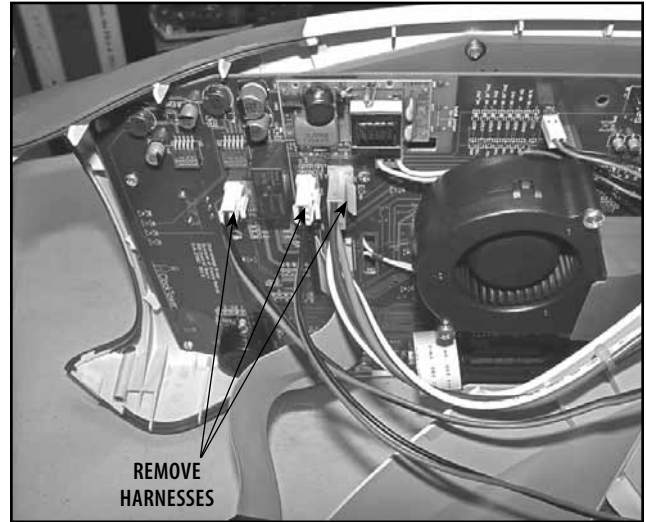

FIGURE 6.24
6. Lay System Top on the edge and disconnect the remaining harnesses from the Control Board. See Figure 6.24.